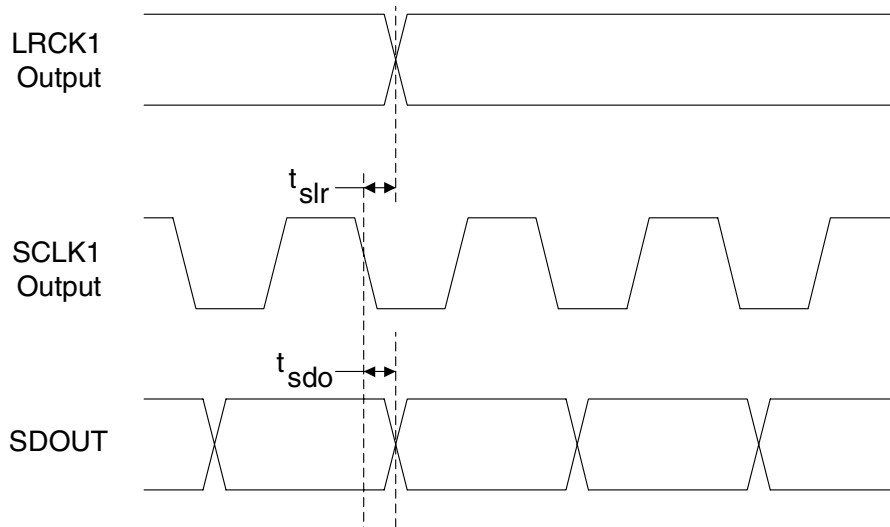

Figure 3. Master Mode Timing - Serial Audio Port 1
25. See figures 3 and 4 on page 22.